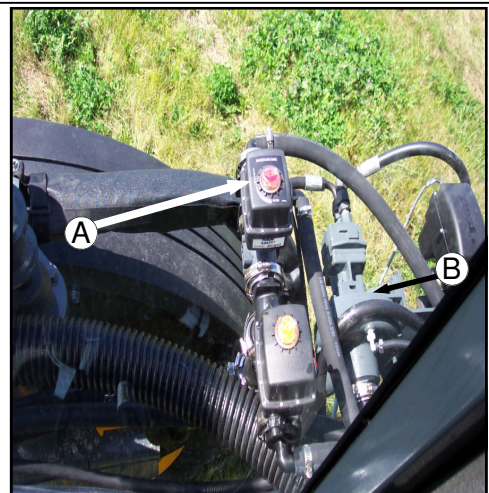

FIG. 49-3
**AGITATION**– The speed of the sparge agitation system is controlled by a variable flow solution valve (fig. 49-3, item A) mounted on the solution pump (fig. 49-3, item B). The agitation switch (fig. 49-4) on the right hand console controls the rate of flow through the sparge system. While watching the indicator on the agi-